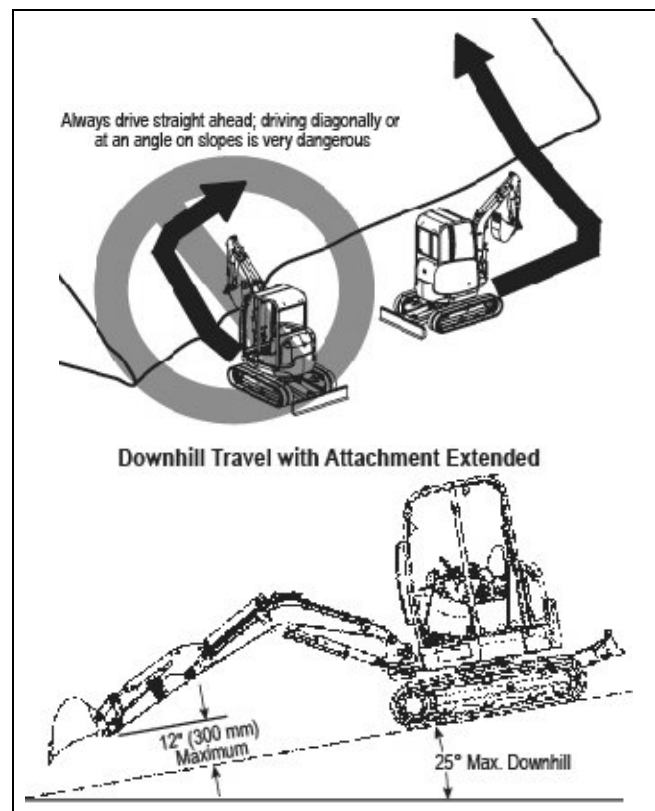

Figure 3-31 Travel Down Slopes
- Travel straight up and down slopes — never across. See the top of Figure 3-31. Extend arm and lower boom to keep the bucket about 12" (300 mm) off the ground. If the machine starts to slide or becomes unstable, lower the bucket to regain control. If the engine stalls, lower the bucket, be sure that all controls are in the neutral position and restart the engine.
- When traveling down a slope, put the machine in the position shown at the bottom of Figure 3-31, control the speed with the travel levers and the throttle controls, and reduce engine RPM.